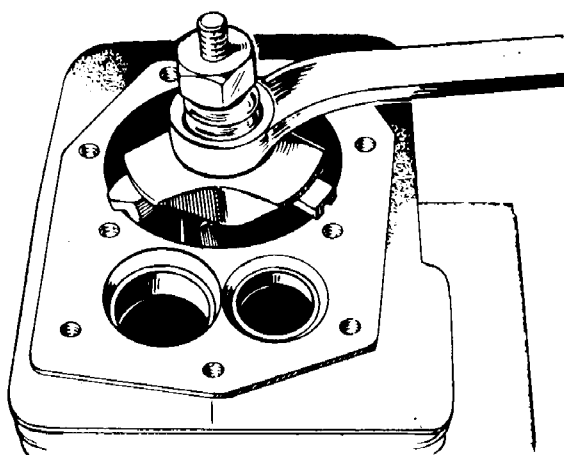

FIGURE 37. REMOVING RIDGE FROM CYLINDER
3. Remove the ridge from the top of each cylinder with a ridge reamer before attempting piston removal (Figure 37).